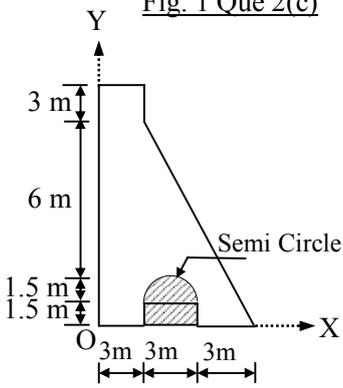

Fig. 4 Que 3(b)
**(b)** Determine co ordinates of centroid with respect to 'O' of the section shown in **Fig. 4**. **04**